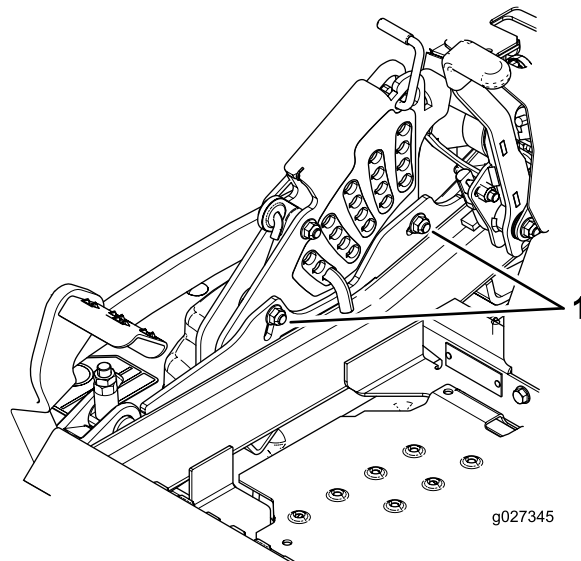

Figure 99
11. To adjust the single-point system, loosen the 2 bolts at the bottom of the height-of-cut plate (Figure 99).
13. Tighten the 2 bolts at the bottom of the height-of-cut plate (Figure 99).